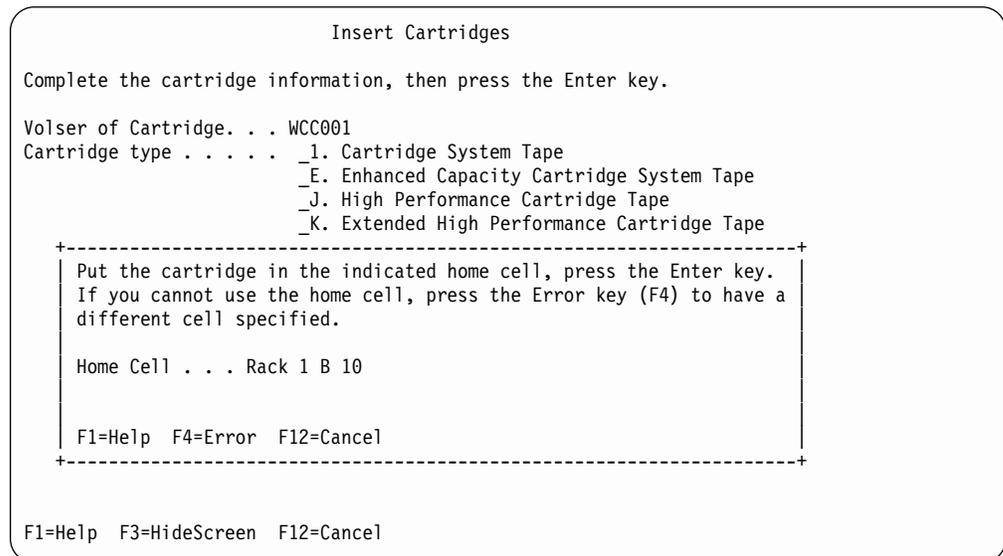

Figure 153. Manual Mode Insert Cartridges Window
5. Press the **Enter** key. A window (Figure 153) opens with the **Home Cell** rack storage location for the inserted cartridge.